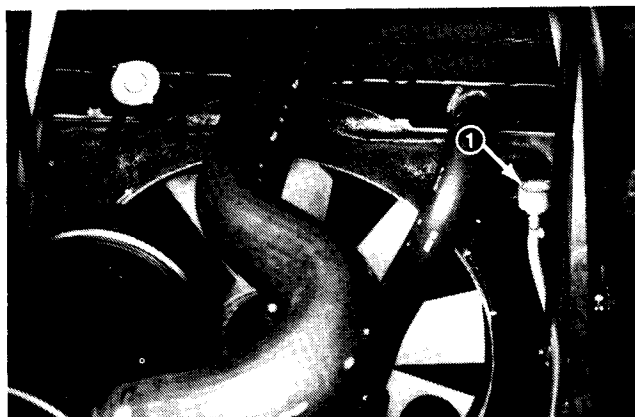

Figure 53
4. Replace breather with new part (Fig. 53).